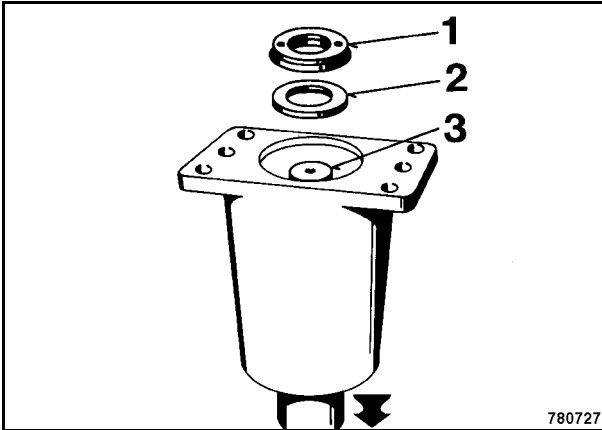
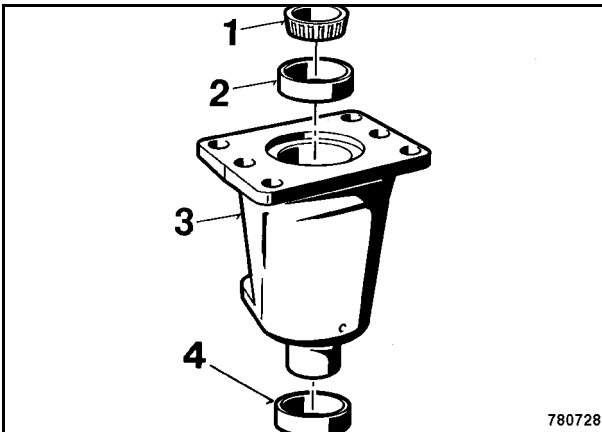

Fig. 8
Fig. 9
10. Loosen the clamping nut 1 (Fig. 8) with the tightening ring and remove it from the housing together with the Belleville spring (2).
11. Pull the oscillation axle (3) out of the housing. If the oscillation axle is tight knock it carefully out of the housing with a plastic hammer.
12. Take out taper roller bearing 1 (Fig. 9) and knock the outer bearing races (2 and 4) out of the bearing housing (3).